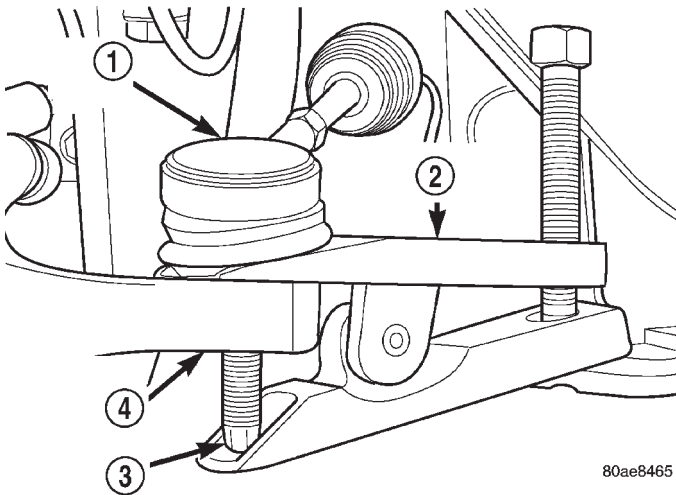

Fig. 9 Tie Rod End Removal From Steering Knuckle Arm
(11) Remove tie rod end from steering knuckle using Remover, Special Tool MB-991113 (Fig. 9).